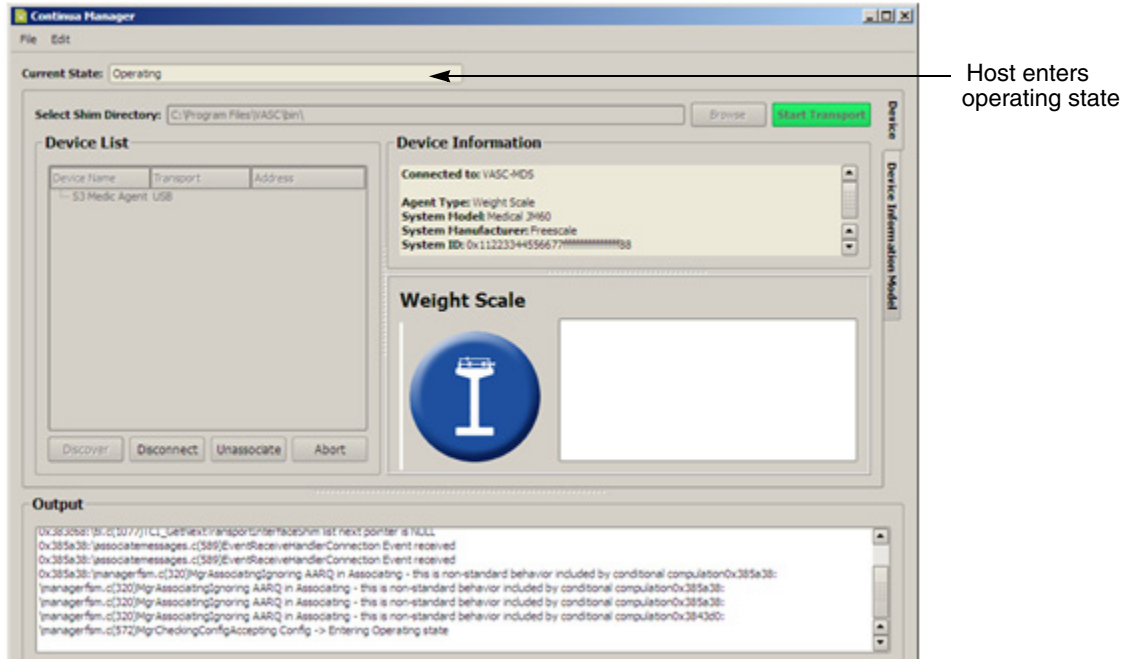

Figure E-7. Continua Application
5. The Continua Manager now enters the operating state. The Continua application window appears as shown in Figure E-7.